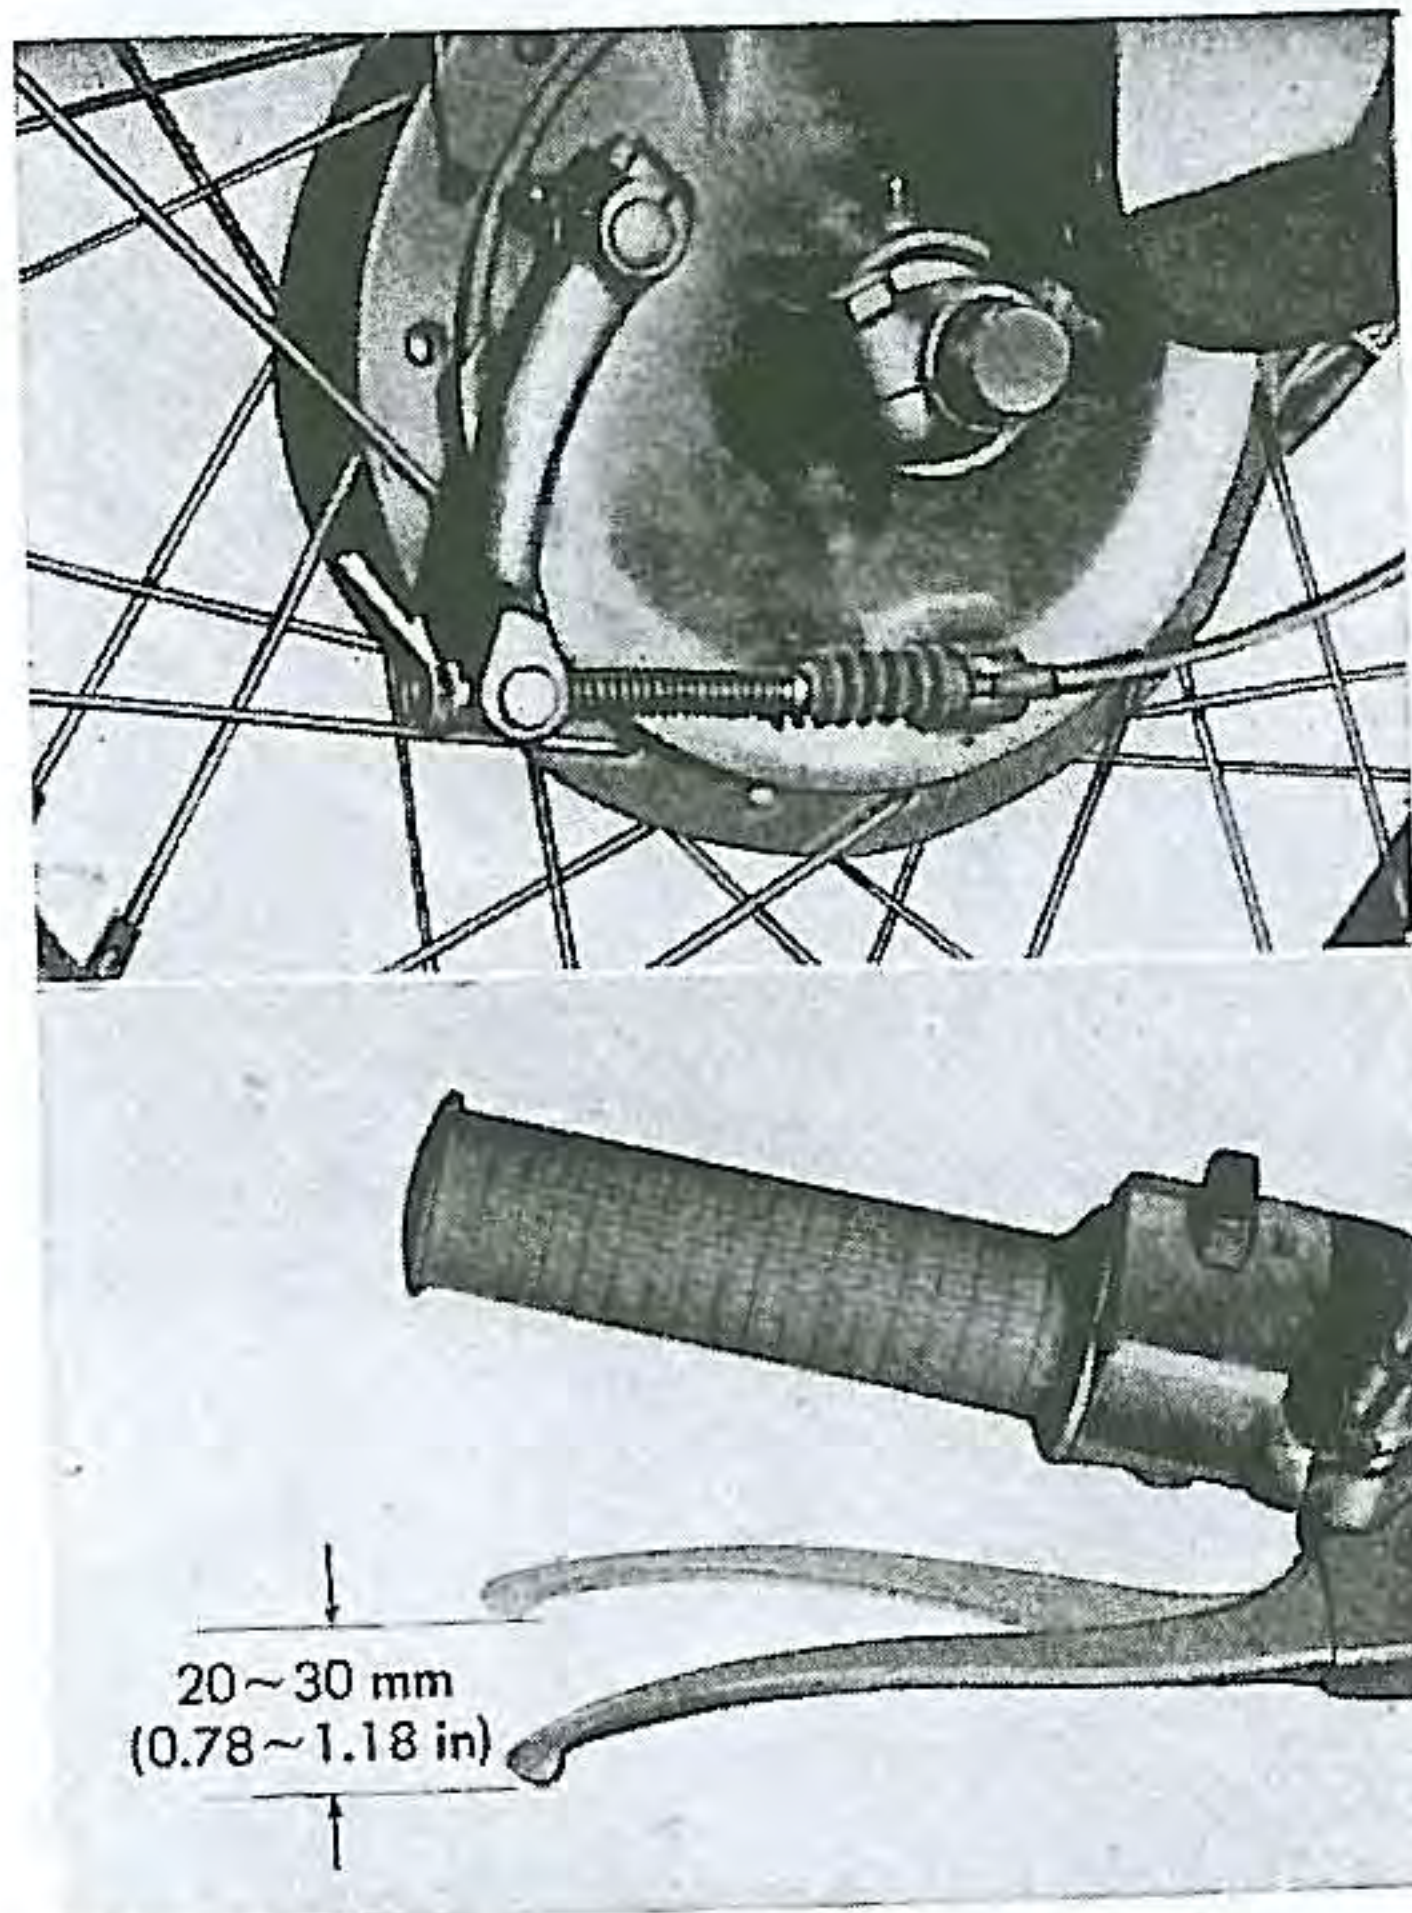

Fig. IV-11. Adjustment of front brake
- (1) Adjust so there is 3-4 mm (0.12-0.16") of free travel in the front brake lever before the brake begins to operate. (Fig. IV-11)
- (2) To adjust, turn the front brake adjusting nut in the needed direction. Turn the nut in to decrease and out to increase the free travel of the lever. (Fig. IV-11)
- (3) To adjust the CB92 front brake :